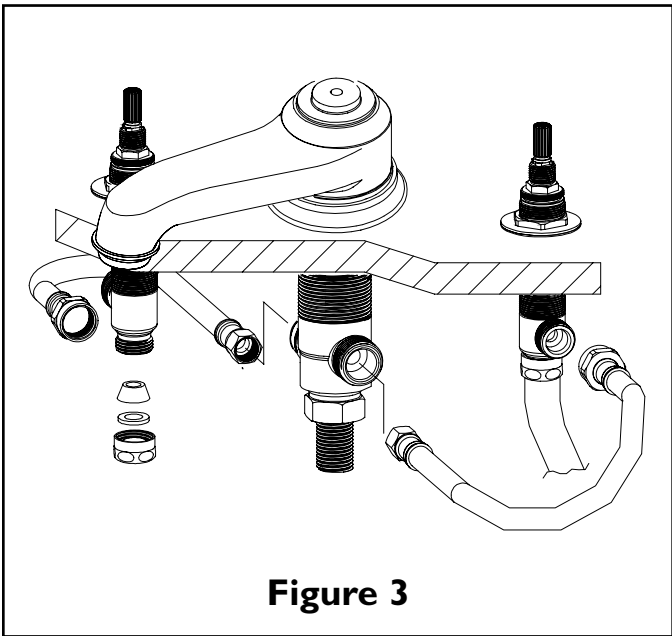

Figure 3
5. Connect a flexible hose to side outlet of each valve body. Attach other end of hoses to either side of the tee. (Hand-tighten and secure each connection with a wrench $\frac{1}{4}$ turn.) See Fig. 3
6. Attach hot/cold water supply hoses (not included) to appropriate valve, utilizing cone washers, friction rings and nuts supplied. See Fig. 3